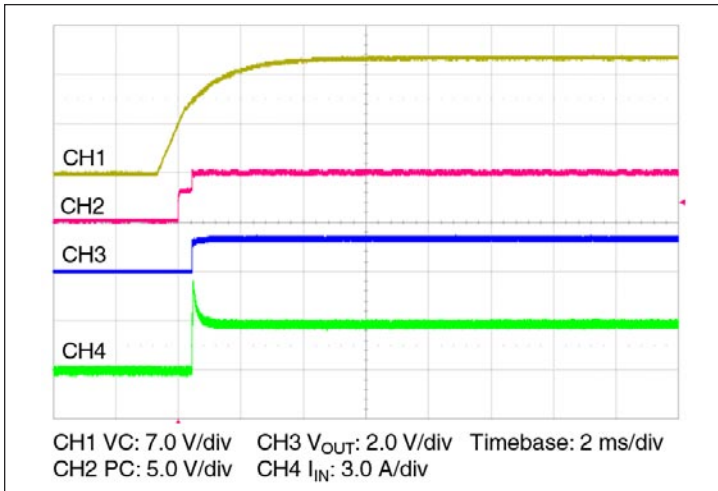

Figure 11 – Start up from application of VC; V_{IN} pre-applied
Current Monitor (IM) pin provides a voltage proportional to the output current of the VTM module. The nominal voltage will vary between 0.07 V and 0.61 V over the output current range of the VTM module (See Figures 11–13). The accuracy of the IM pin will be within 25% under all line and temperature conditions between 50% and 100% load.
- Stand-alone operation (VC applied after V_{IN}): In this case the VTM module output will begin to rise upon the application of the VC voltage (See Figure 11). The Adaptive Soft Start Circuit (See Section 11) may vary the output rate of rise in order to limit the inrush current to its maximum level. When starting into high capacitance, or a short, the output current will be limited for a maximum of 120 µ/sec. After this period, the Adaptive Soft Start Circuit will time out and the VTM module may shut down. No restart will be attempted until VC is re-applied or PC is toggled. The maximum output capacitance is limited to 64400 µF in this mode of operation to ensure a successful start.